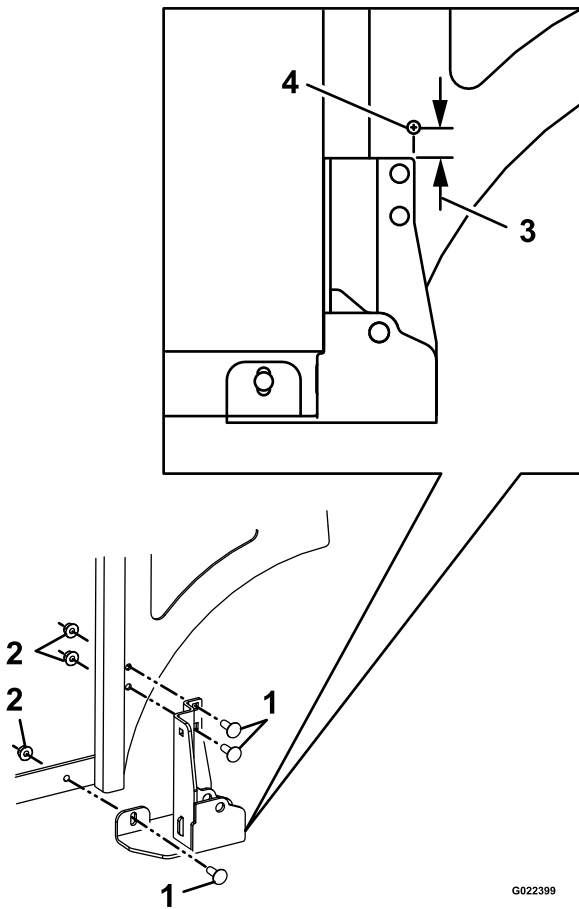

Figure 4
- Align the holes and install 3 carriage bolts (5/16 x 7/8 inch), and hand tighten 3 flanged nyloc nuts (5/16 inch) as shown in Figure 4.
3. Measure 25 mm (1 inch) above the top right edges of the lower actuator bracket, and drill 1 hole (6.4 mm or 1/4 inch diameter) through the frame (Figure 4).